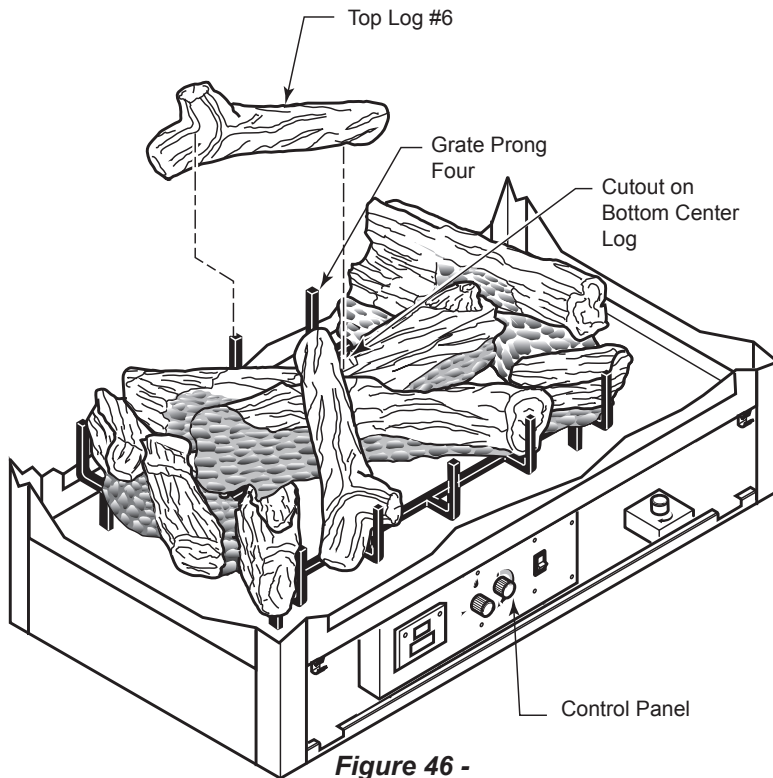

**Figure 44 -
6. Line up pin holes on bottom front log (#4) with pins on grate. *Figure 44*